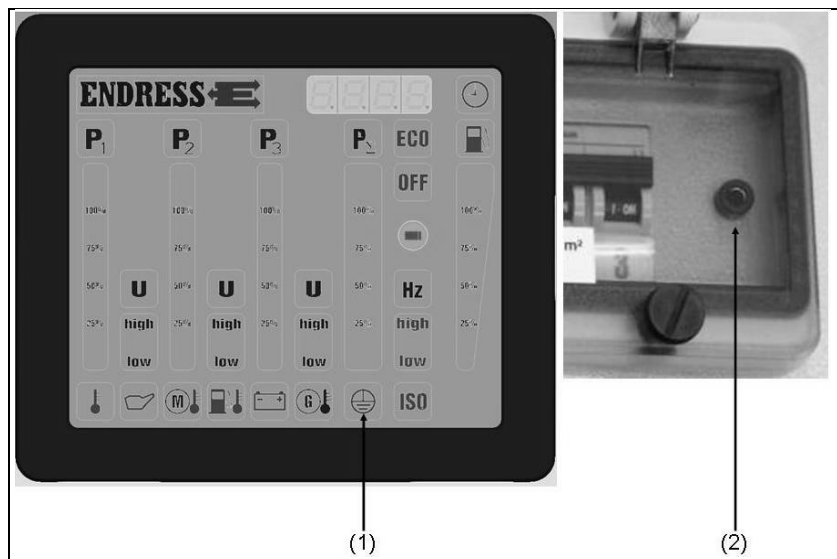

Fig. 4-4: Check the protective conductor
1. Insert test cable into socket (Fig. 4-4-(2)).
The test lamp (Fig. 4-4-(1)) on the multifunction display shows the result: